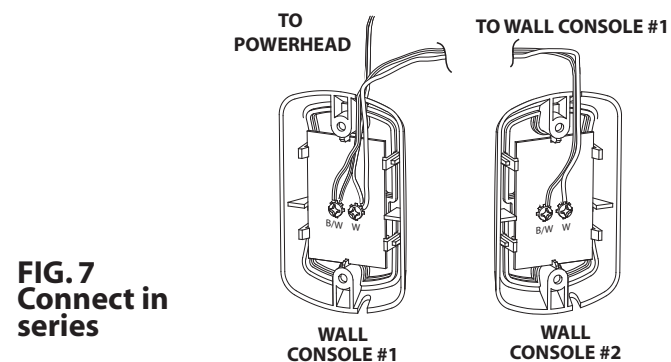

FIG. 7
- **(in series)** Run wire from new wall console to existing wall console (**Fig. 7**).